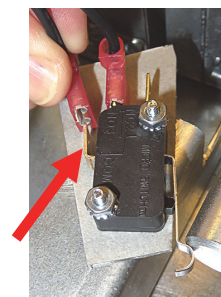

Figure 26
30. Connect pin-1 wire to the COM position of the top right switch (see Figure 26 and wiring diagram on last page).